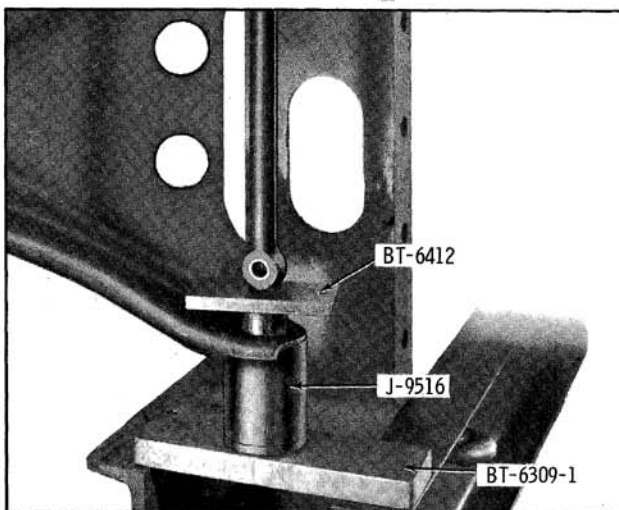

Fig. 9-16 Removing Upper Control Arm Bushings
3. Position control arm assembly and tools in a press as shown in Fig. 9-16 and press bushing out of control arm.